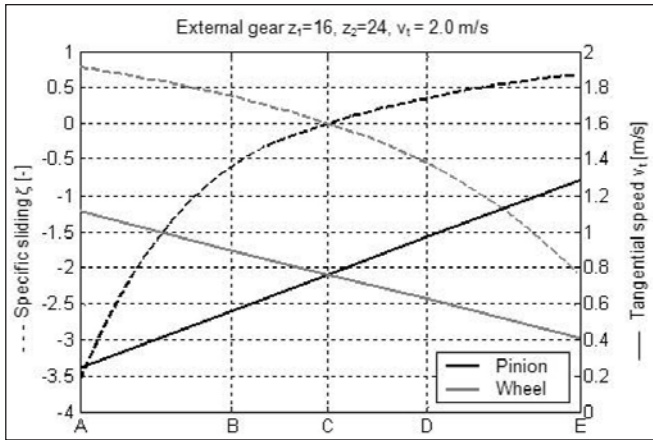
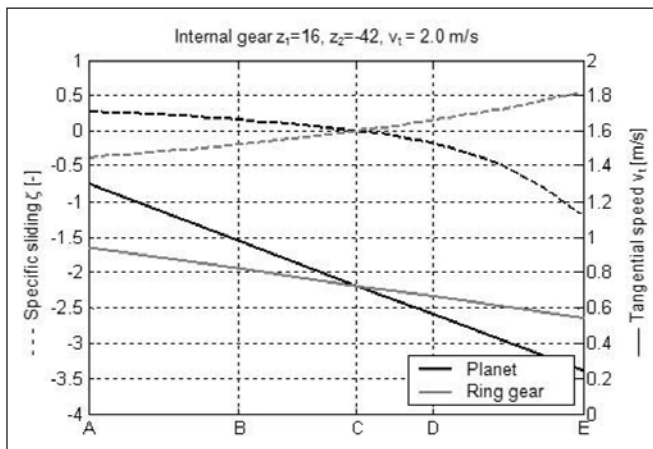

Figure 8—Specific sliding and tangential speed of the external gear.
Figure 9—Specific sliding and tangential speed of the internal gear.
Figures 8 and 9 show that negative, specific sliding occurs in the area of the dedendum flank of pinion and wheel of the external gear, as well as in the planet and ring gear of the internal gear. Compared to the external gear, the absolute values of the specific sliding for the internal gear are significantly lower. However, for the internal gear, the negative, specific sliding of the planet is more distinct than the negative, specific sliding of the ring gear.
The mean sum of velocity for both gears can be calculated by adding the tangential speeds of the two engaged gearwheels. Figure 8 shows that the tangential speed of the driving gear of the external gear increases over the transverse path of contact (AE), while the tangential speed of the driven gear decreases equally; therefore the mean sum of velocity stays approximately constant. In contrast, the tangential speeds of both gearwheels of the internal gear (Fig. 9) start at their maximum values in the beginning of contact, and both decrease over AE—which leads to a decreasing sum of velocity. This results in an improvement of the hydrodynamic conditions in the beginning of contact which, in combination with the favorable equivalent radius of curvature, suggests that the area of the dedendum flank of the ring gear is exposed to a smaller risk of failure than the equivalent area of the wheel of the external gear. The tangential speeds shown in Figures 8 and 9 relate to a circumferential speed of $v_t=2$ m/s.